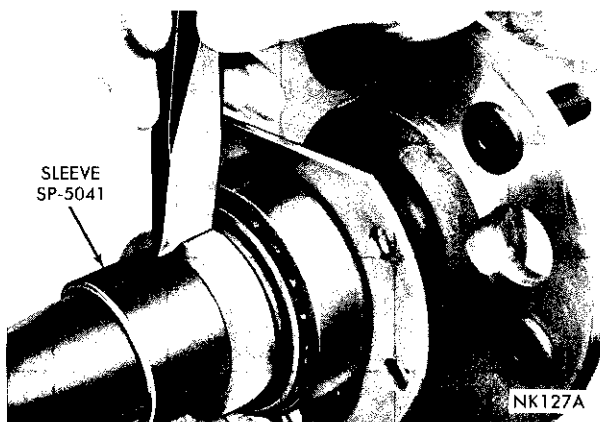

Fig. 7—Notching Bearing Retainer Collar
(1) Install the axle shaft in a vise and notch the collar (Fig. 7). Slide the collar off the shaft.